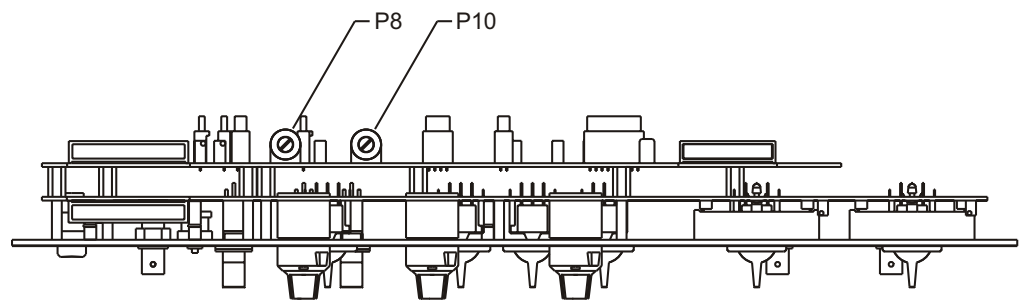

Figure 3-10: Location of P8 and P10 (top view)
3. Locate the P8 and P10. P8 and P10 are located towards the front of the instrument. See Figure 3-10.